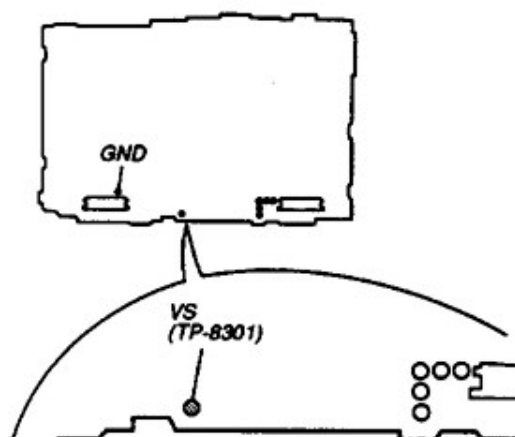

Fig. 5-6
- c. Connect the probe of Digital Multi Meter to VS (TP8301) on the Pin board. (Refer to Fig. 5-6)